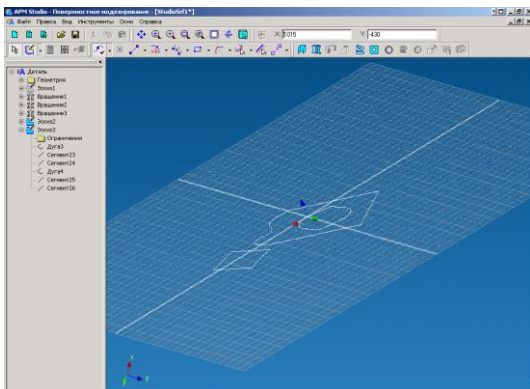

Fig. 1.3 Sketch
**Sketch** is a plane in three-dimensional space intended for drawing of various flat contours and other graphic objects (Fig. 1.3).